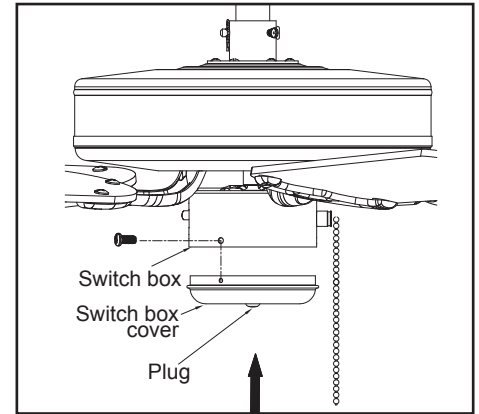

Figure 19
4. Position the switch box housing onto the switch cup and reinstall the light kit mounting screws (figure 19).